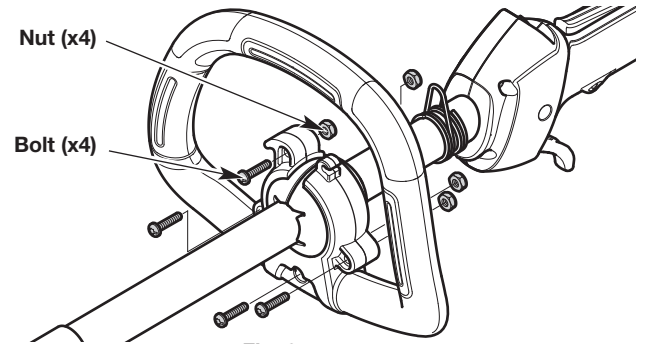

Fig. 6
5. Insert a nut into one of the hexagonal recesses in the back of the rear handle bracket (Fig. 6). Make sure the round side of the nut faces outward. Hold the nut in place with a finger. Insert a bolt into the corresponding hole in the front handle bracket (Fig. 6). Tighten the bolt with a flat-head or T20 Torx® screwdriver. Repeat this step until all four (4) bolts are securely installed.